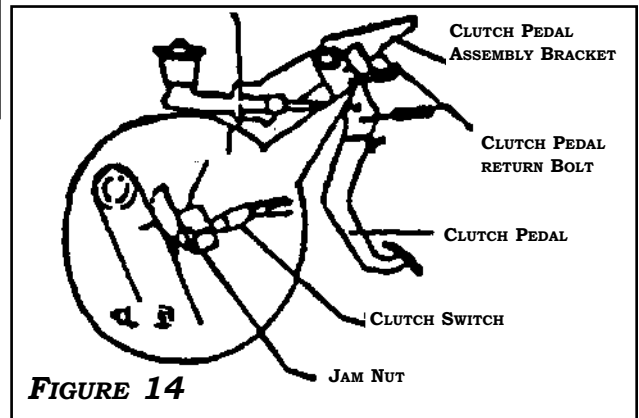

FIGURE 14
1. RECORD POSITION OF CLUTCH PEDAL IN ITS FREE, UNDEPRESSED POSITION. REMOVE STOP BOLT AND THREAD **CLUTCH SWITCH** SO THAT THE PLUNGER IS COMPLETELY DEPRESSED WHEN THE CLUTCH PEDAL IS IN ITS FREE, UNDEPRESSED POSITION. SECURE **CLUTCH SWITCH** WITH JAM NUT REMOVED FROM THE STOP BOLT. **FIGURE 14**